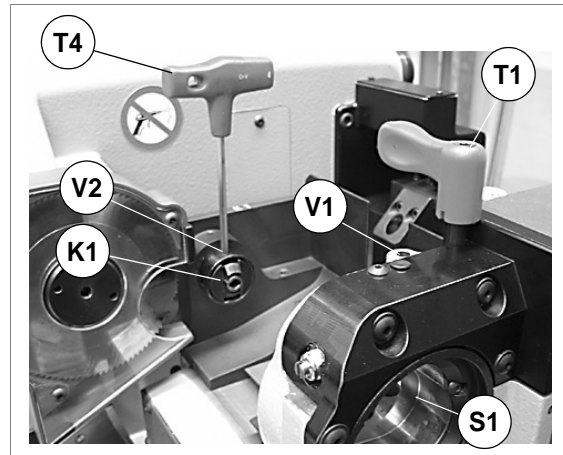

Fig. 78
- 2) Orient the standard tailstock (K1) for male keys in the special seat on the support, using the screw (V2) to direct it upwards (fig. 78).
- 3) Take the 'T' wrench (T4) from its seat and fit into the screw (V1) (fig. 78), then loosen until the jaws are fully open. At the end of the operation do not remove the 'T' wrench from the screw (V1).